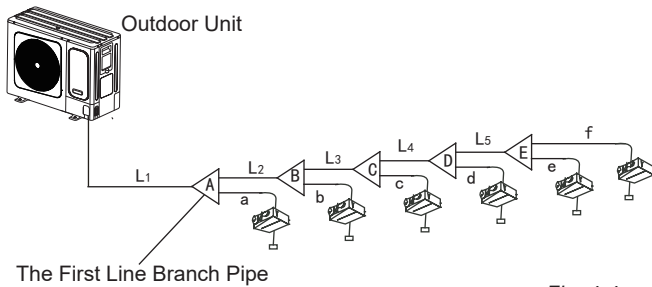
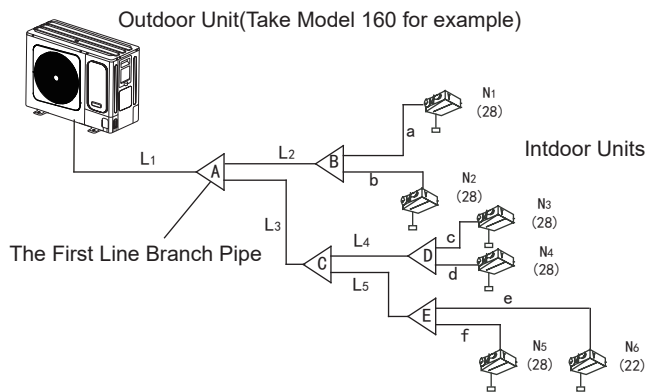
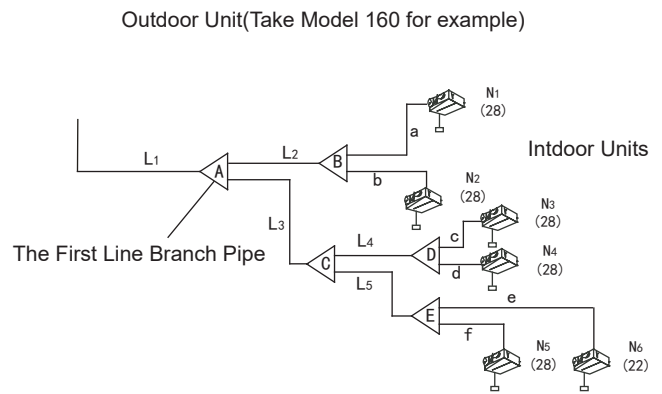
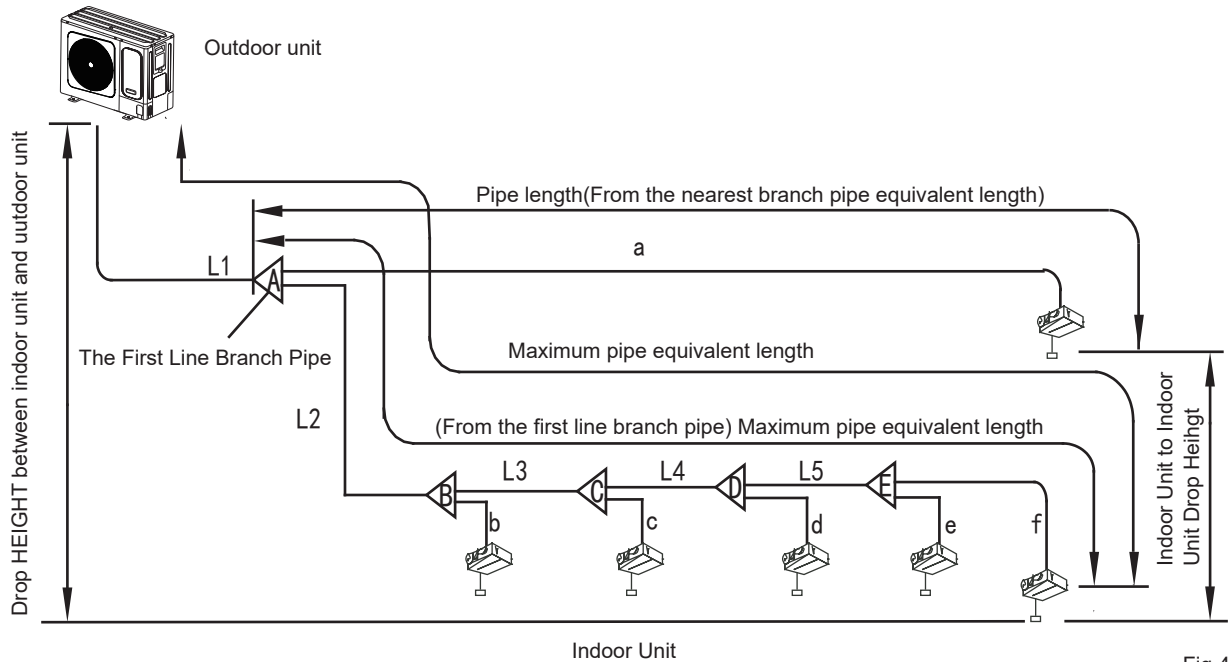

Fig. 4-4
Fig. 4-5
Fig.4-6
Fig.4-7
- Example 1: In the Fig.4-5, The downstream inner units of the L2, and its total capacity is $28 \times 2 = 56$, refers to the Table 4.4, the air/liquid side of L2 is: $\Phi 15.9/\Phi 9.5$.
● Main pipe (Please refer to Fig.4-5 and Fig.4-7)
In Fig.4-6, the main pipe L1, the outdoor unit capacity is 16kW, and check the Fig.4-7 to get the size of gas pipe/liquid pipe is Φ19.1/Φ9.5, and aslo the total equivalent length of liquid side and gas side pipes is >90m,then check the Fig.4-4 to get the size of gas pipe/liquid pipe is Φ22.2/Φ9.5, and according to the maximum value principle, it should apply the Φ22.2/Φ9.5.